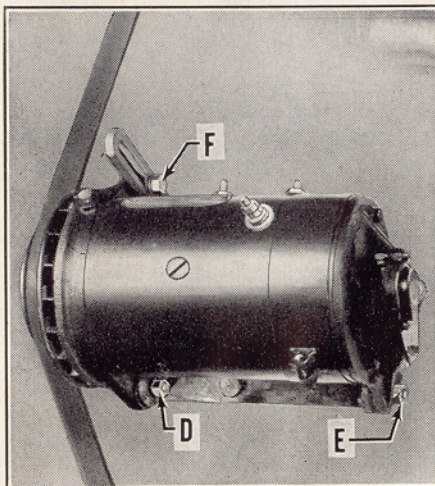

Figure 42
Adjustment is made by loosening cap screws and nuts (D), (E) and (F), (Figure 42). When proper position has been obtained, be sure to tighten screws and nuts securely.